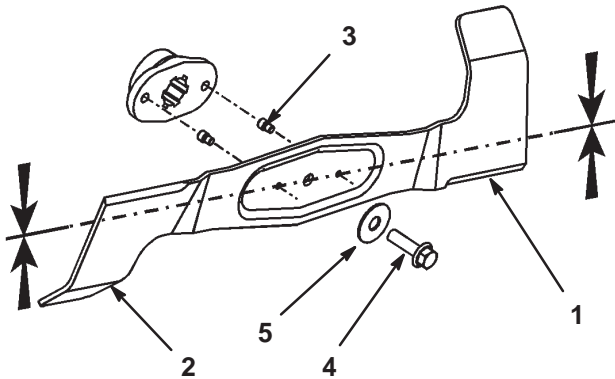

Figure 38
- Inspect the cutting edges (Fig. 38). If the edges are not sharp or have nicks, remove the blades and sharpen them; refer to Sharpening the Blade(s), page 30.
- Inspect the blades, especially the bent edges (Fig. 38). If you notice any wear or damage in this area, immediately install a new blade.
- If the shear pins are broken, replace them immediately (Fig. 38).
3. Remove the bolt, washer, and blade (Fig. 38). A block of wood may be wedged between the blade and the mower to lock the blade when you are removing the bolt.
1. Install the blade, washer, and blade bolt (Fig. 38).